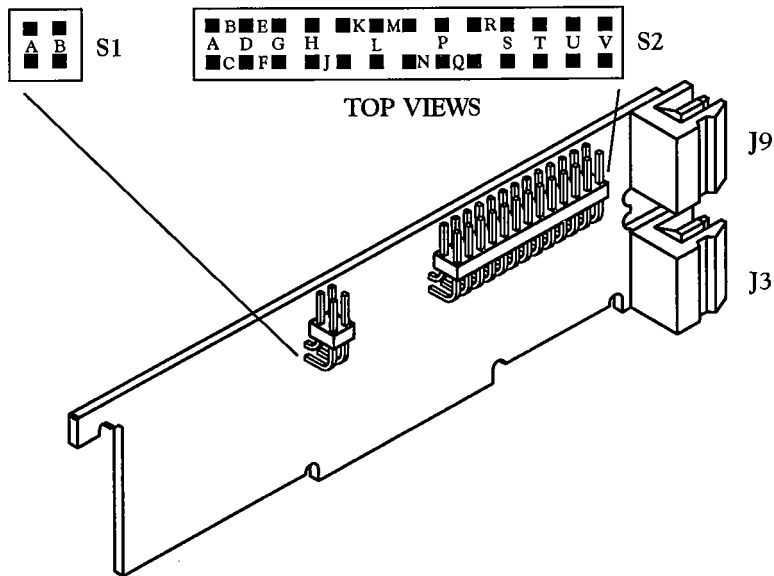

Figure 5-6. Signal Input Board
Figures 5-6 through 5-12 show the layout of the seven (7) printed circuit boards with respective jumper blocks, where applicable, used in the meter. Figures 5-8 through 5-12 show the optional boards.